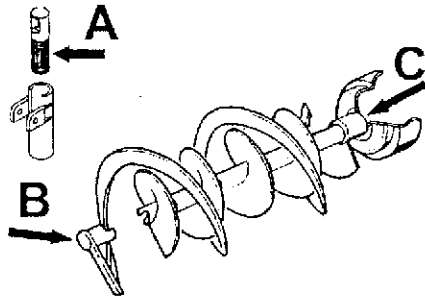

figure 13
2. Lubricate faucet piston, inside auger and cutter spiral (see points A,B and C of figure 13) only with the grease supplied by the manufacturer or other food grade approved lubricant.